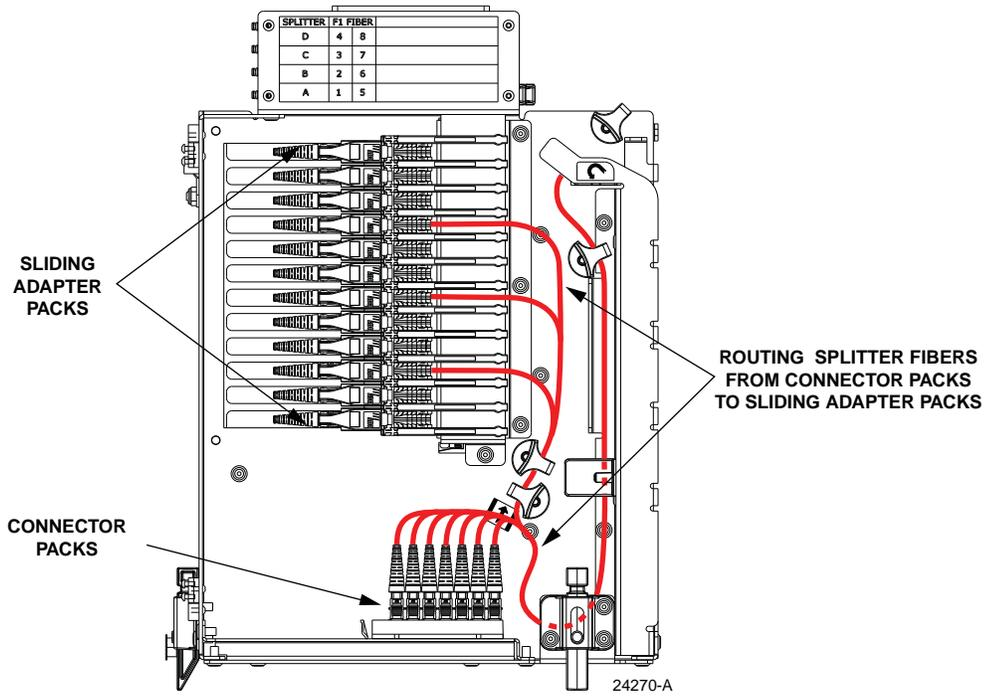

Figure 60. Splitter Output Fiber Routing to Adapter Pack
9. Route and dress the fiber slack as shown in Figure 60.